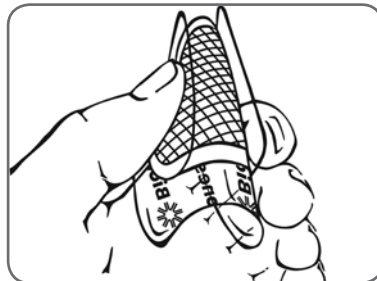

Figure 52: Splitting the L300 hydrogel electrode two-piece covers.
5. Split the two-piece covers on each new electrode and discard them. See Figure 52.